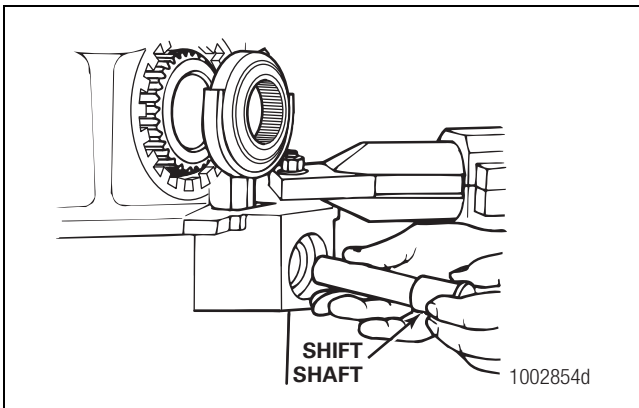

Figure 9
- Remove the shift shaft from the shift fork. Figure 9.